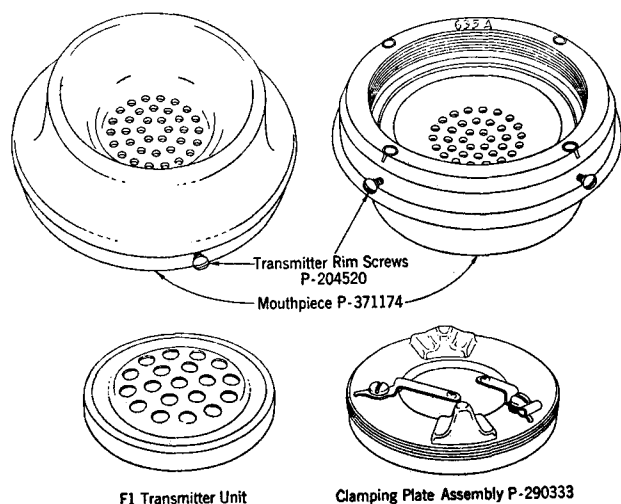

Fig. 1—Parts of 635A Transmitter Unit
2.01 The 635A transmitter unit consists of the mouthpiece, clamping plate assembly and F1 transmitter unit shown in Fig. 1.